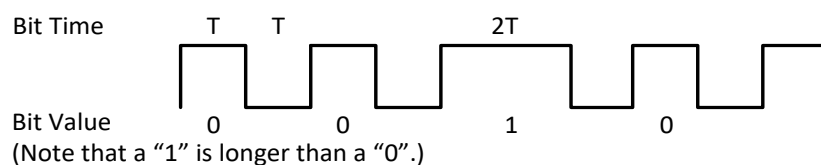

Figure 3-128 Pulse-width Coding
- Pulse-width coding transmission protocols, such as NEC and RCMM protocols. See Figure 3-128.